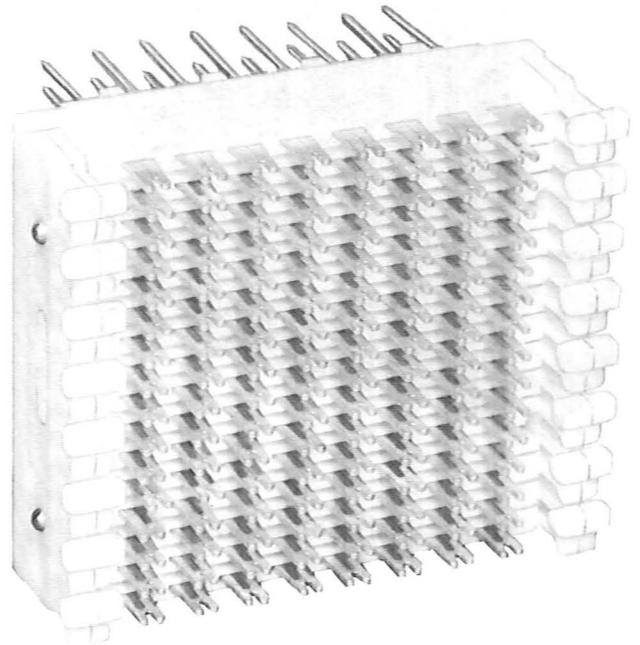

Fig. 1—78A1-64 Connecting Block
2.01 This block (Fig. 1) consists of a molded plastic panel equipped with 128 tin-plated, single-clip connectors arranged in 16 rows with 8 clips in each row. The clips are designed for use with 22-gauge wire. A slotted fanning strip is provided on each side of the block. The connectors extend through the block to form solderless wire-wrap terminals on the rear of the block. This block provides a cross-connection capacity of 64 pairs and is intended for use on trunk distributing frames.